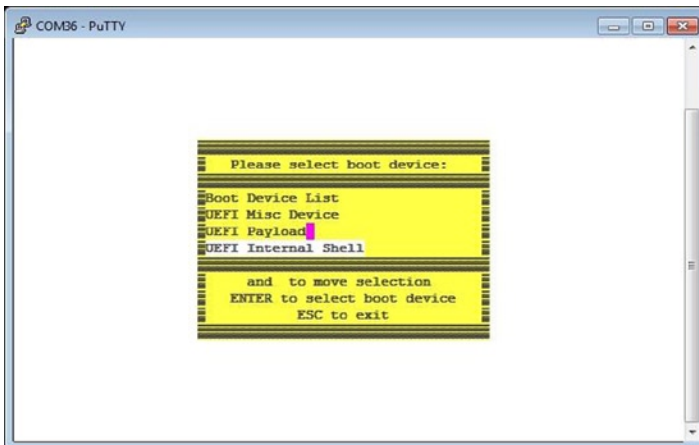

Figure 2-11. Selecting the UEFI internal shell
6. In the menu, choose the **UEFI Internal Shell** option by using the arrow keys, as shown in Figure 2-11. Press Enter and then press the ESC key to receive the shell prompt.